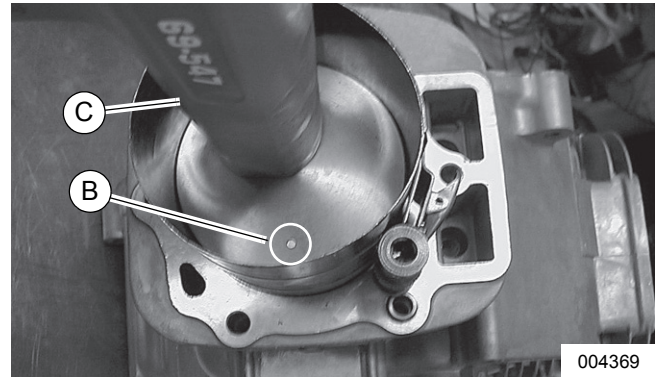

Figure 13-3. Install Piston and Connecting Rod
3. See Figure 13-3. Install #1 piston with notch or casting mark (B) towards flywheel side.